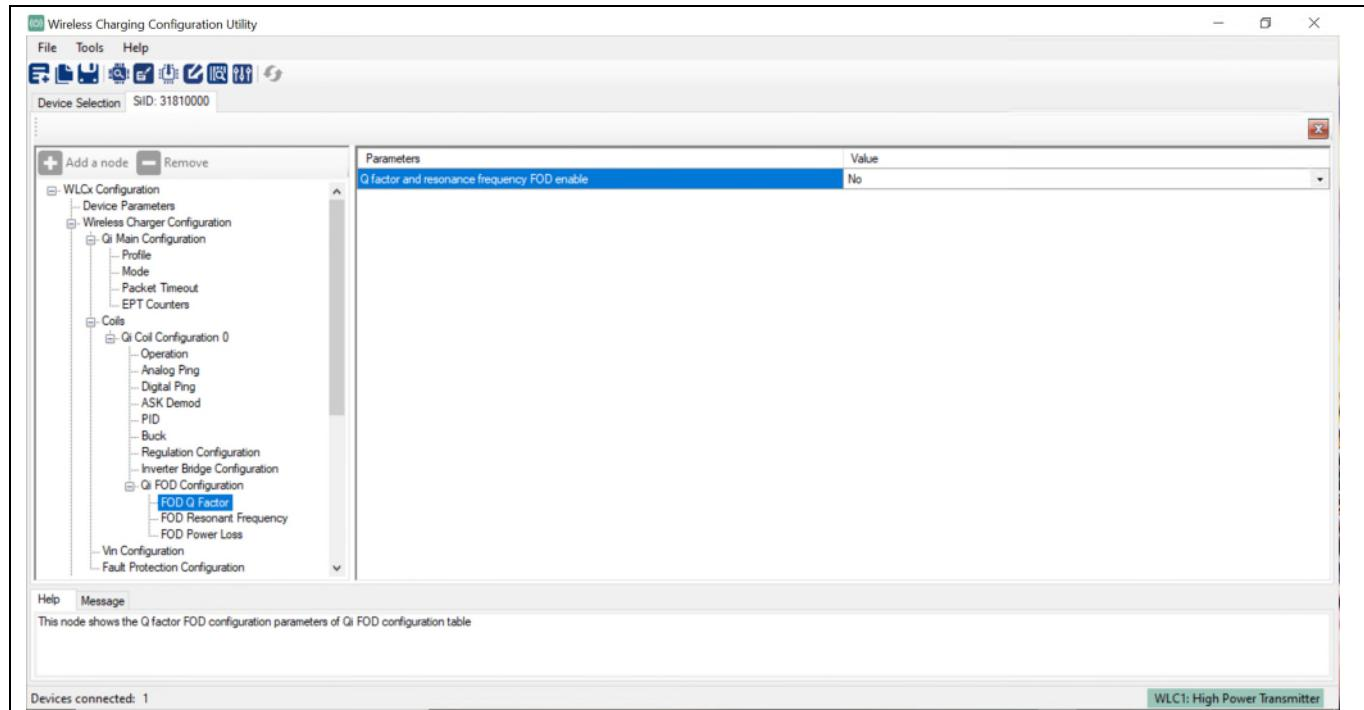

Figure 27 Static configuration interface to update the parameter
7. Open the Read from device tab and disable the “Q factor and resonance frequency FOD enable” and “Enable power loss FOD” through static configuration as shown in Figure 27.